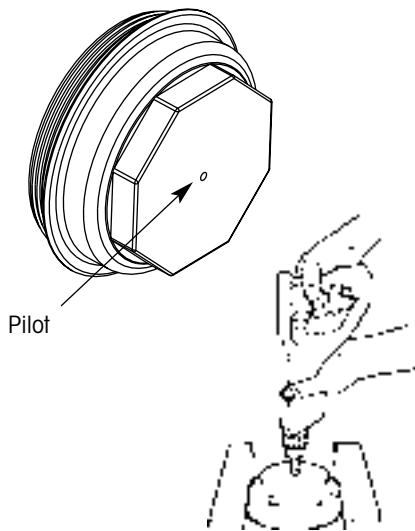

Figure 20. Preparing for hubodometer installation
2. Using the pilot in the center of the hubcap (figure 20), drill a  $\frac{9}{16}$ -in. hole through the hubcap. Remove all drilling residue from the hubcap.